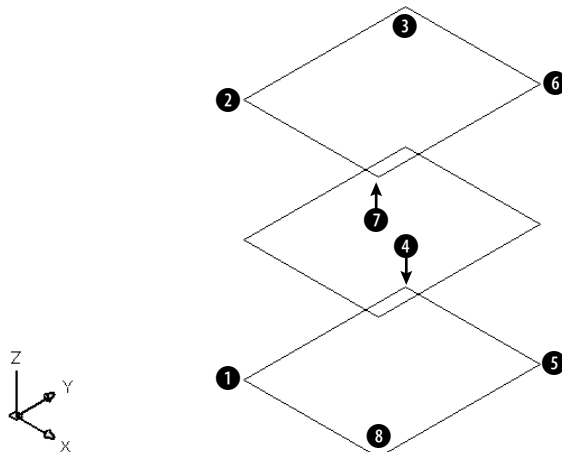

Figure 23-4: The three 3D faces from an isometric viewpoint.
5. Choose View ⇨ 3D Views ⇨ SE Isometric. Your drawing should look like Figure 23-4. You now have the top, bottom, and middle shelf of the cabinet.
Specify first point or [Invisible]: *Pick the endpoint at ❶ in Figure 23-4.*
7. To draw the door of the cabinet, change the current layer to CONST. Start the LINE command and draw a line from ❷ in Figure 23-4 to @18<225. End the LINE command. Now start the COPY command and copy the line from ❷ to ❶. These two construction lines frame the door.
Specify point on positive portion of X-axis <-0'-5 3/4", -0'-6 3/4", 0'-0">: *Pick ❶ in Figure 23-4.*